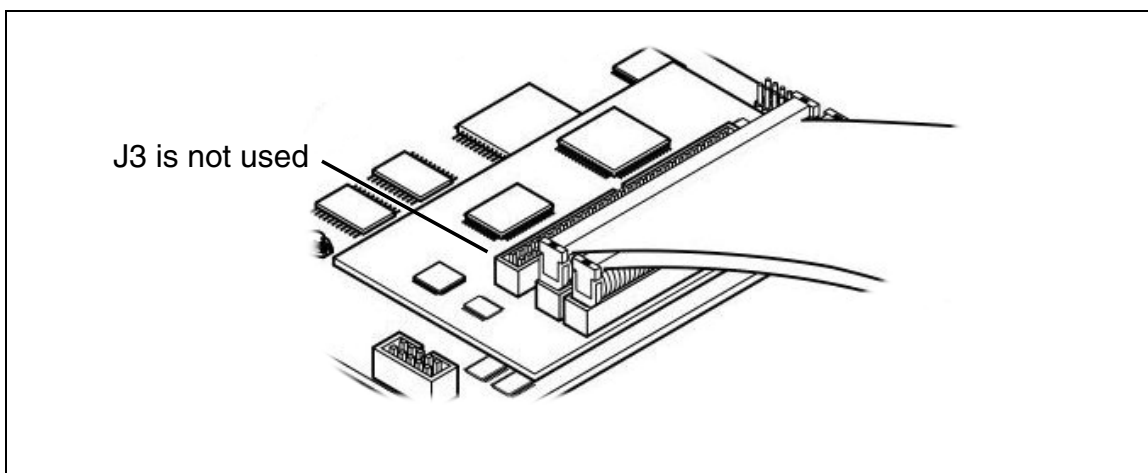

Figure 5: Connecting the two 50-pin flat cables to the TEB
- 2 Connect the two 50-pin flat cables to the J1 and J2 connectors on the ST7MDT20-DVP3 TEB as shown in Figure 5. Note that the J3 connector is not used.